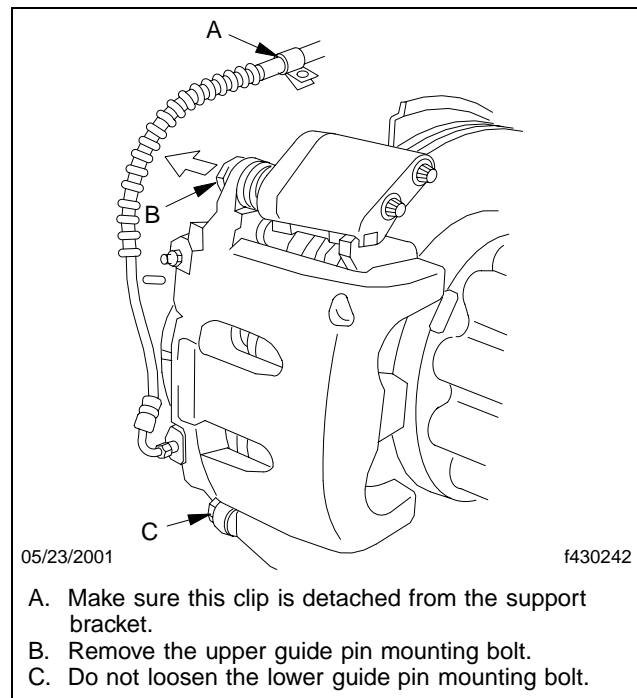

Fig. 7, Upper Pin Mounting Bolt Removal
2. Remove the brake line retaining clip from its support mounting. This will allow the brake line hose to hang free. See **Fig. 7**.
3. Remove the upper (top) guide pin mounting bolt. See **Fig. 7**.